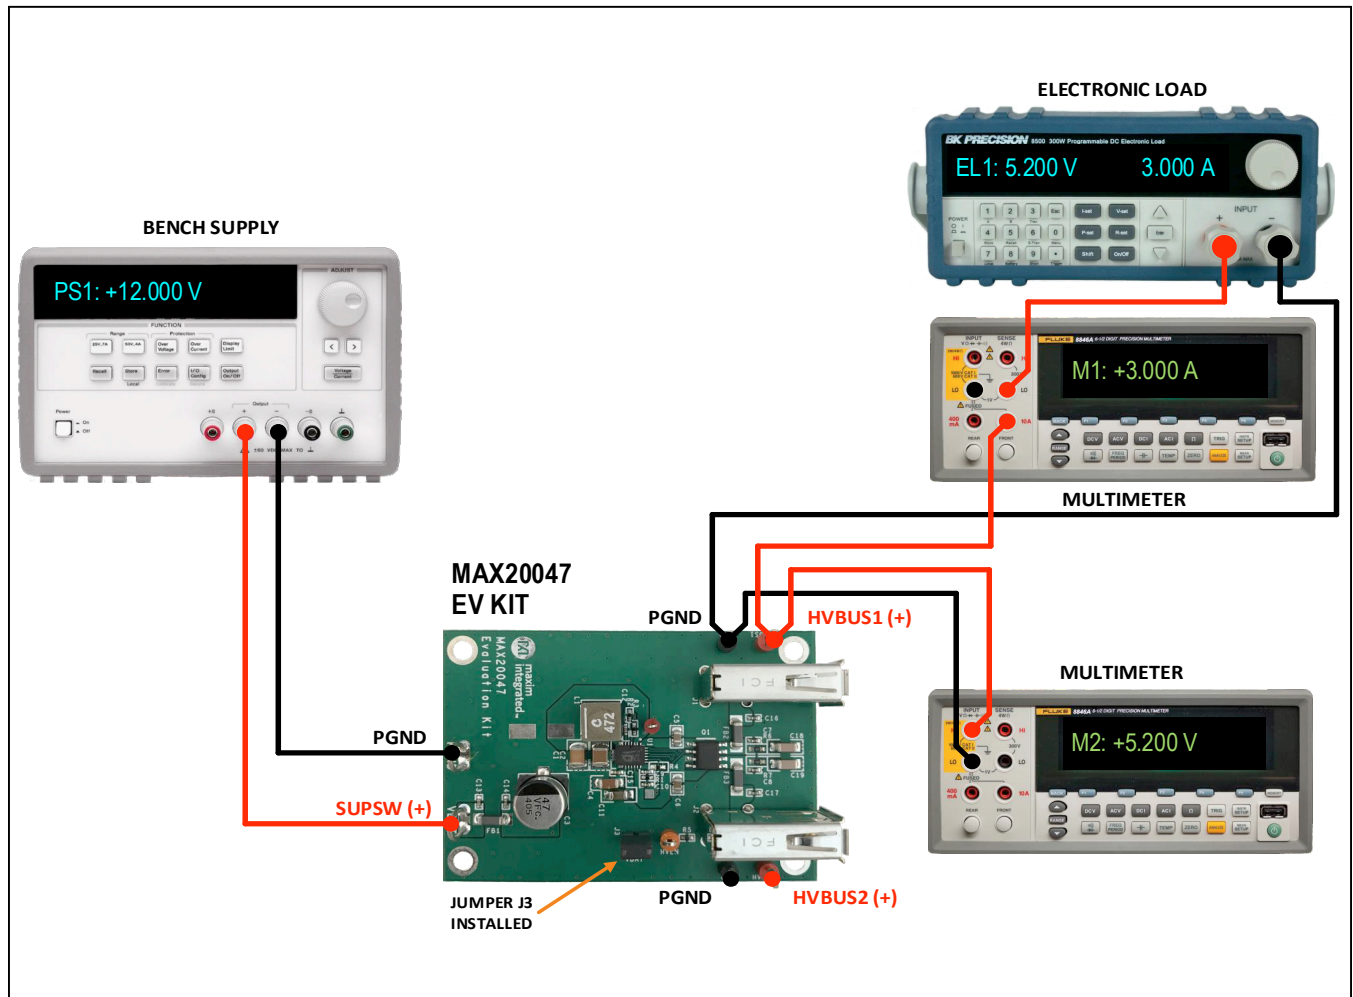

Figure 5. Test Setup for Testing DCP Current Limit
The VBUS current limit for both USB ports are factory configured for 3.3A, which can be changed to 2.75A, 2.41A, or 2.1A by selecting a different  $R_{ILIM}$  resistor. See the *Other Configurations* section for details on making this selection. *Figure 5* shows the test setup to evaluate the IC's VBUS current limit:
1) Connect the equipment (see *Figure 5*), set PS1 to